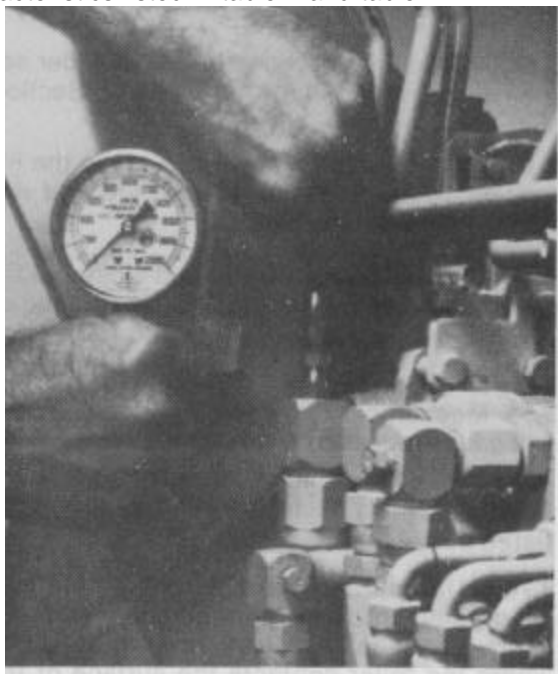

Figure 3-25
3.71.2 Determine the lift (Fig. 3-25) and control (Fig. 3-26) circuit system pressure and currents. Compare to characteristics listed in table 1 and table 2.
Figs. 3-25 and 3-26 show a 2000 PSI gauge checking operating pressures. To determine relief valve pressures, use a 3000 PSI gauge.
To determine lift circuit relief pressure and hoist cylinder operating pressure, connect a 3000 psi hydraulic gauge with a flexible hose ending in a 1/8 NPTF male thread, to the lift valve pressure inlet elbow. This is illustrated in Fig. 3-25.